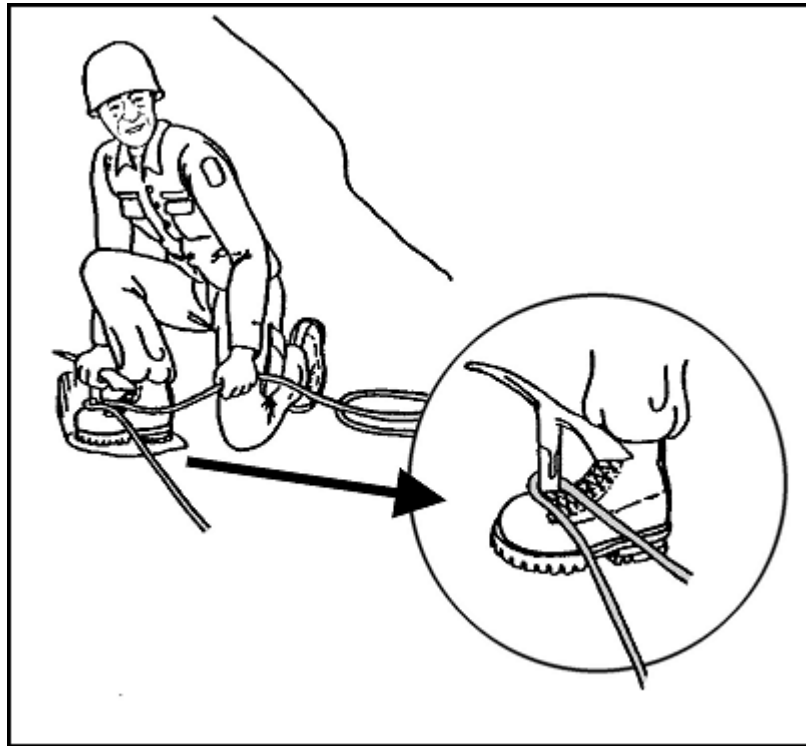

Figure 10-20. Boot-ax belay.
(1) **Boot-Ax Belay.** This belay can be useful in areas where the full length of the ice ax can penetrate the snow. The holding strength of the boot-ax belay is directly related to the firmness of the snow and to the strength of the ice ax shaft. The shaft of the ax is tilted slightly uphill and jammed into the snow. The belayer places his uphill foot against the downhill side of the ax for support. A bight formed in the rope is placed over the boot and around the shaft of the ice ax. The brake is applied by wrapping the rope around the heel of the boot (Figure 10-20).